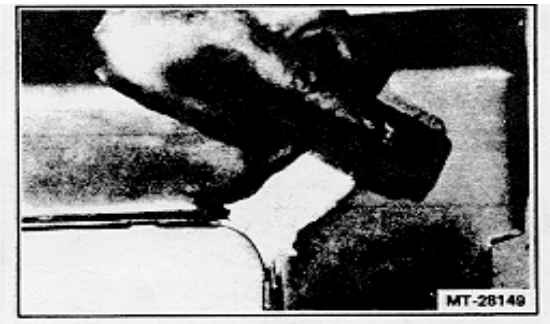

Figure 54 - Filling Repaired Surface
- When the filler is firm to the touch, plane and/or file off the excess, still leaving the filler level slightly above that of the original surface (Figure 54).